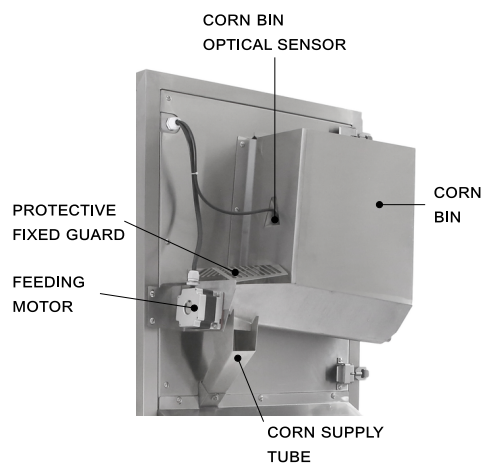

Figure 2: Corn bin with feeder
Popcorn kernels is loaded in the **corn bin with feeder**, see Fig. 2. The feeder consists of **feeding motor** and an auger inside the bin. The motor drives the auger, which pushes corn in the chamber. **Fixed guard** covers the rotating auger to avoid direct contact.
- Hot air comes out from the corn supply tube (see Fig. 2) during machine operation. **STAY CLEAR.**
- **MAKE SURE FIXED GUARD IS SECURED** on its place (see Fig. 2). Touching rotating auger might cause hand or finger injury.